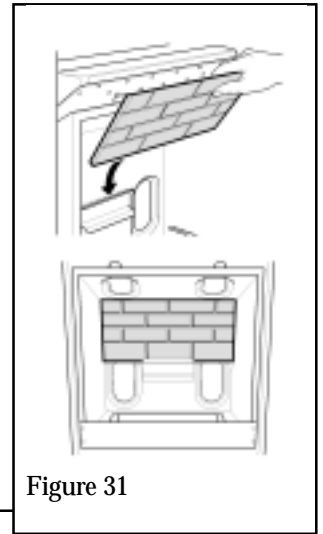

Figure 31
1. Locate the ceramic rear wall in the channel at back of the firebox and flat against the back of the firebox. See figure 31.